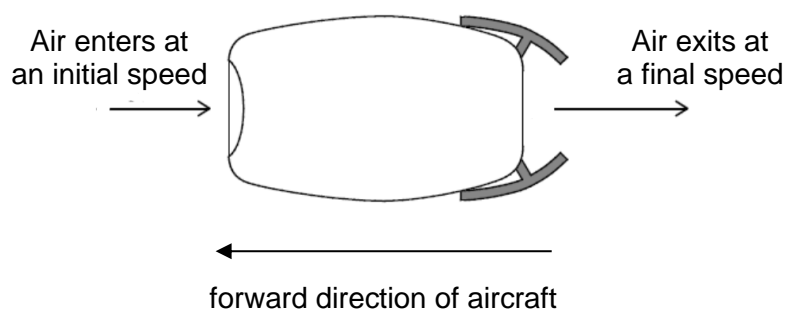

Fig. 7.4
- (b) A simplified model of a jet engine of an aircraft is shown in Fig. 7.4.